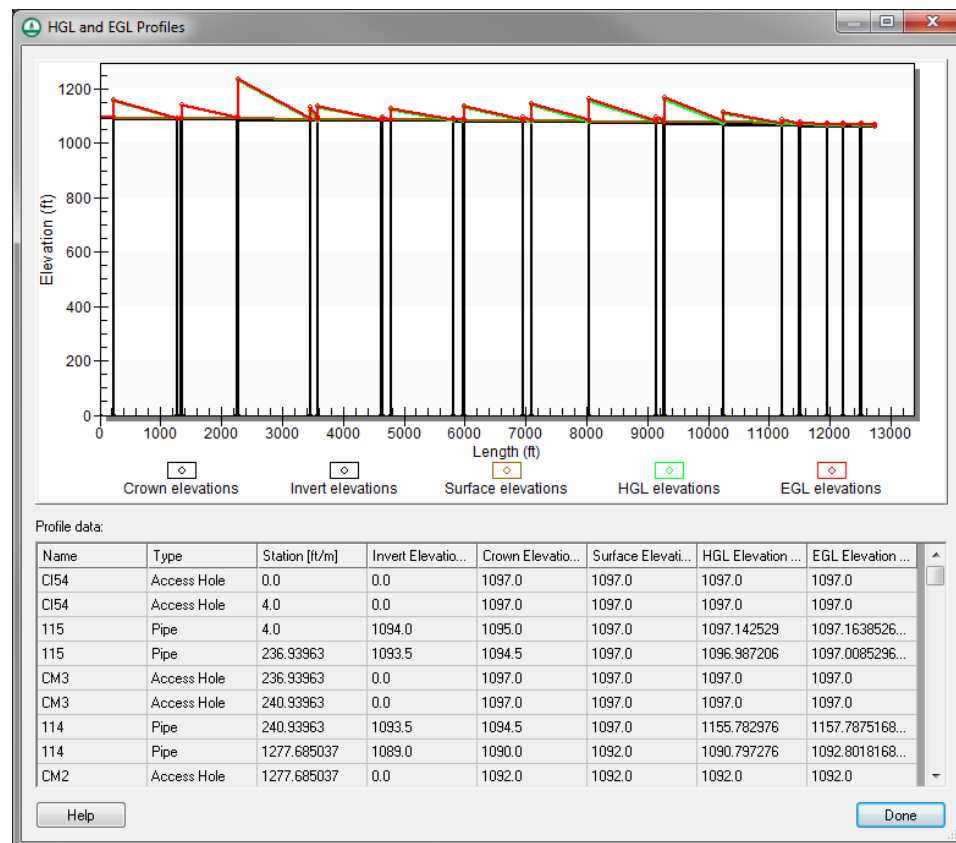

Figure 4 HGL and EGL Profiles dialog
3. Select *HY-12 / View EGL and HGL Plots...* to bring up the *HGL and EGL Profiles* dialog (Figure 4).